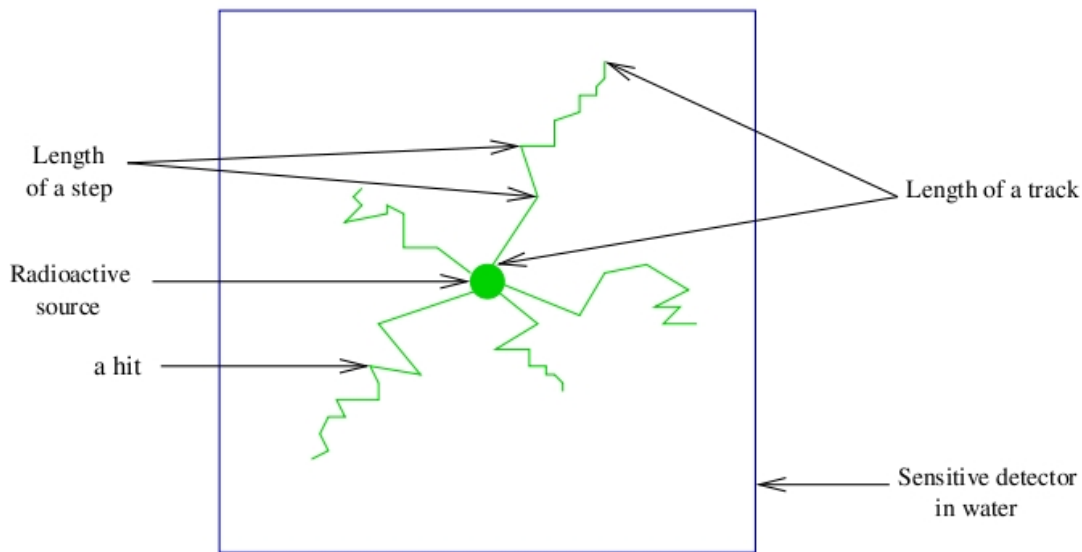

Fig. 4.15: Particle interactions in a sensitive detector
Once a model has been defined for the scanner through the construction of a system (see Defining a system), the next step is to attach a **sensitive detector** (SD) to some volumes of the geometry. As in any Geant4 simulation, these sensitive detectors are used to store information regarding interactions of a particle in the matter (*hits*) using information from the steps occurring along the particle track. A hit is a snapshot of a physical interaction of a track in a sensitive region of the detector. Fig. 4.15 illustrates these notions. Hits contain various pieces of information associated to a step object, such as the energy deposition of a step, geometrical information, position and time of a step, etc.